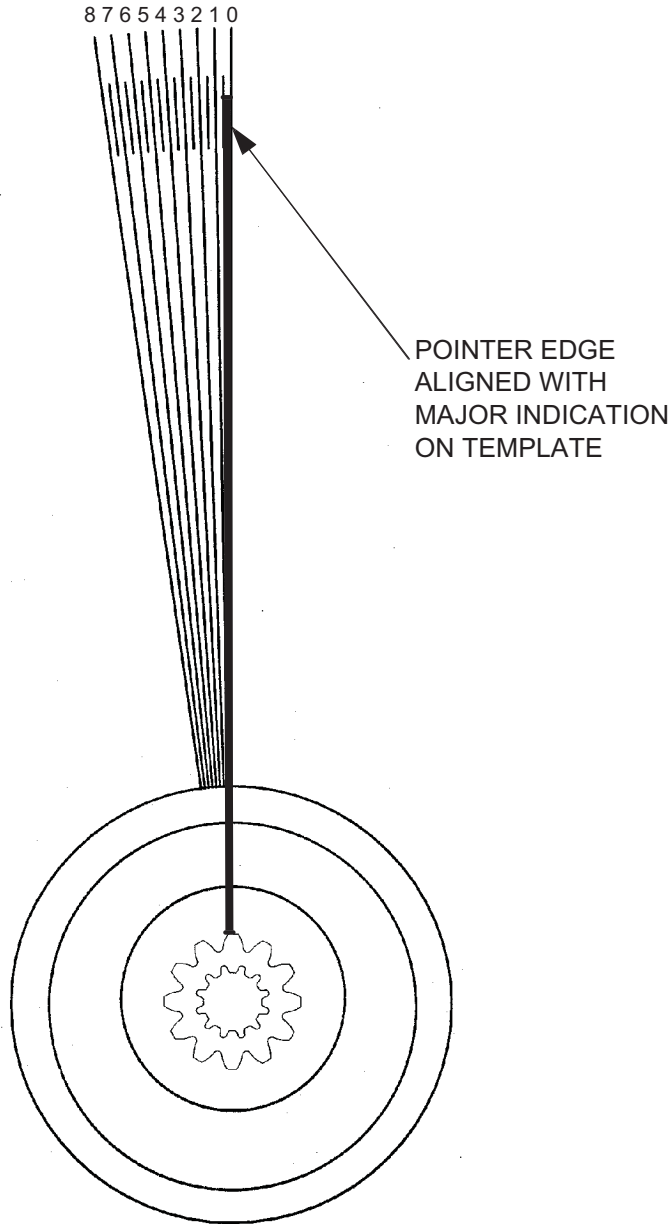

Figure 3A. Pointer Alignment
- E. While pulling outward on the drive shaft to hold it against its axial stop, turn the shaft clockwise to a firm stop. Adjust the template to align one of the major indications with the pointer edge (see Figure 3A).